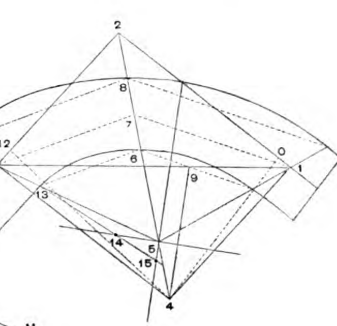

**Fig. 59.—Manner of Drawing Mold.**
**Fig. 59.**—Let 1 3 equal G K; 1 2 and 3 4 equal G L; 3 2 and 1 4 equal L H and complete the parallelogram. Connect 2 4 as the minor length. Let 4 5 6 9 equal D U O R. Let 8 12 equal P V as the width at both ends. Complete the mold by drawing the curved line through the points indicated. For joints on short tangent, let 2 7 equal L M, and draw square from tangent, giving point required. For the bevel, let D P equal 4 0; the angle at P will then be the bevel required for both ends of the mold.